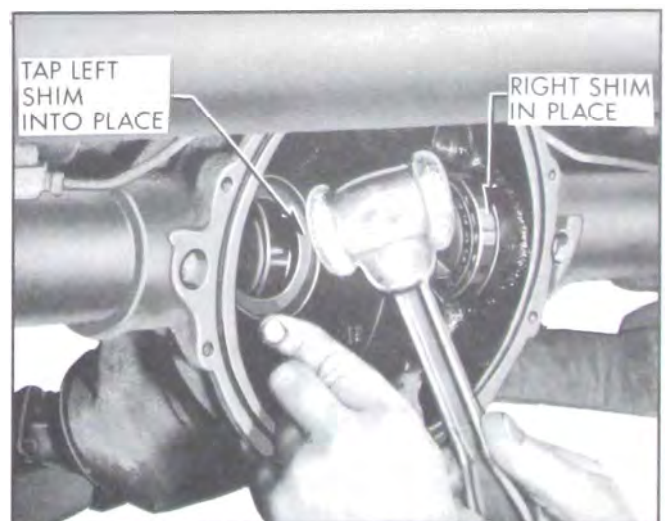

Figure 6-20—Installing Differential Adjusting Shim
.002" thicker than original shim. Slip right shim in position at right bearing, then drive left shim carefully into position using a soft hammer. See Figure 6-20.
1. Install differential case and bearing assembly. Slip right shim into position at right bearing, then drive left shim into position using a soft hammer. See Figure 6-20.